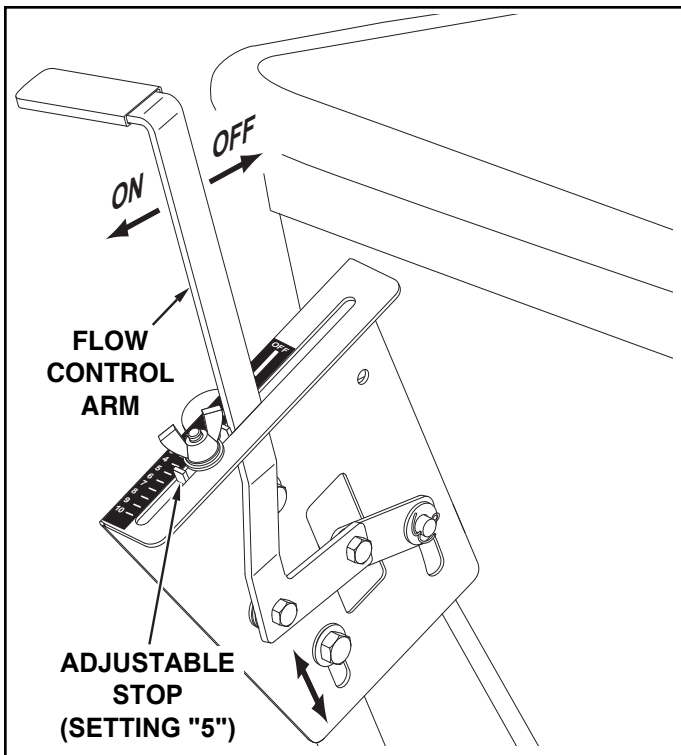

FIGURE 13
- Position the flow control mounting bracket. See figure 13.
(Refer to figure 13 on page 9.)